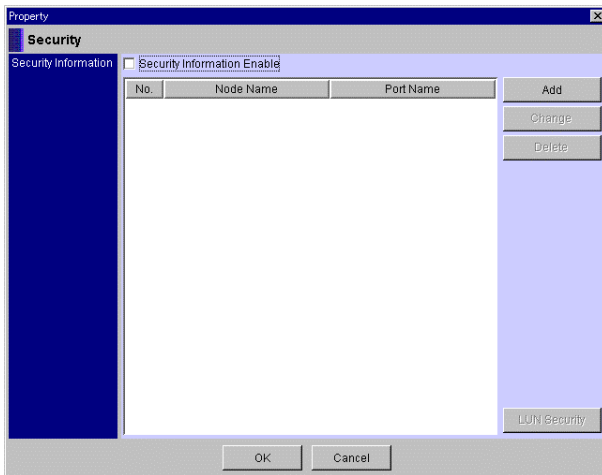
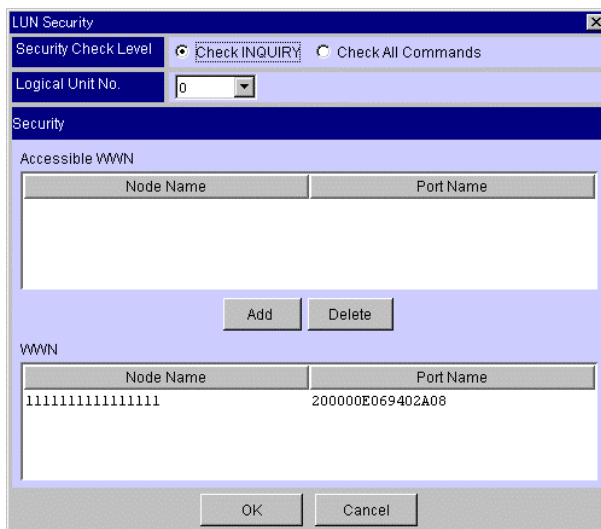

Figure 4.3 Security Property Panel
Figure 4.6 LUN Security Panel (Selecting Security Check Level, Logical Unit No., and Node Name)
The Security Property panel appears (see Figure 4.3).
The added WWN appears in the Security property field (see Figure 4.3).
7. In the Security panel (refer to Figure 4.3), click the **Security Information Enable** check box and then the **SANTinel (LUN Security)** button. The SANTinel (LUN Security) panel appears (see Figure 4.6).